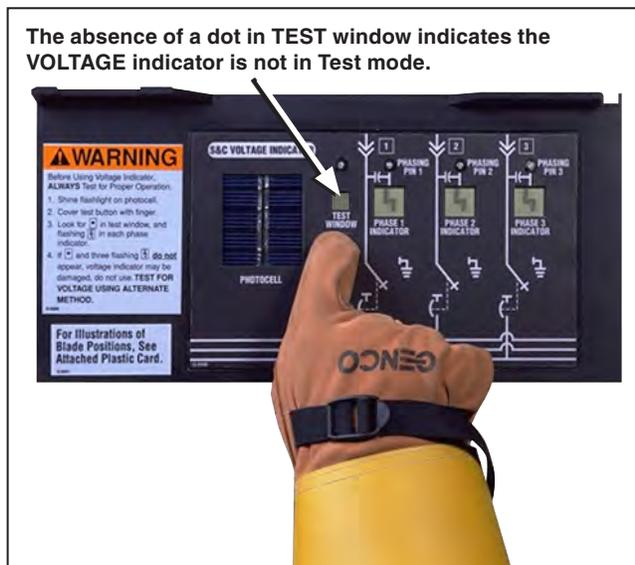

Figure 45. Make sure there is sufficient light to run the test circuitry and the TEST button is completely covered by a gloved finger.
- (c) If the dot  or any of the flashing lightning bolts  do not appear, make sure the TEST button is completely covered with a gloved finger so no light shines on that photocell and there is adequate light (provided either by a flashlight or the sun) to power the test circuit. See Figure 45. If the dot  or any of the flashing lightning bolts  still do not appear, the VOLTAGE indicator may be damaged. Test for voltage using an alternate method. See Figure 46.